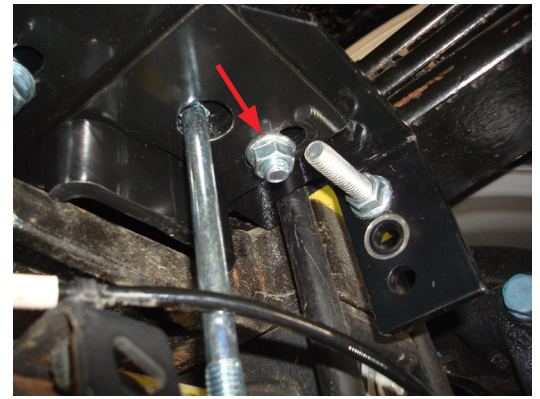

Fig. 21
- Torque the nut (Q) to 32 lb.-ft. (43Nm) on both sides (Fig. 21).